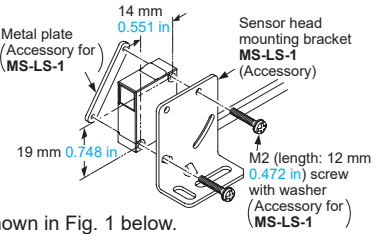

Fig. 1 Proper positioning
- When placing the sensor head horizontally or vertically, the reflector must also be positioned horizontally or vertically as shown in Fig. 1 below. If the sensor head is placed horizontally or vertically but the reflector is tilted as shown in Fig. 2 below, the reflection amount will decrease, which may cause unstable detection.